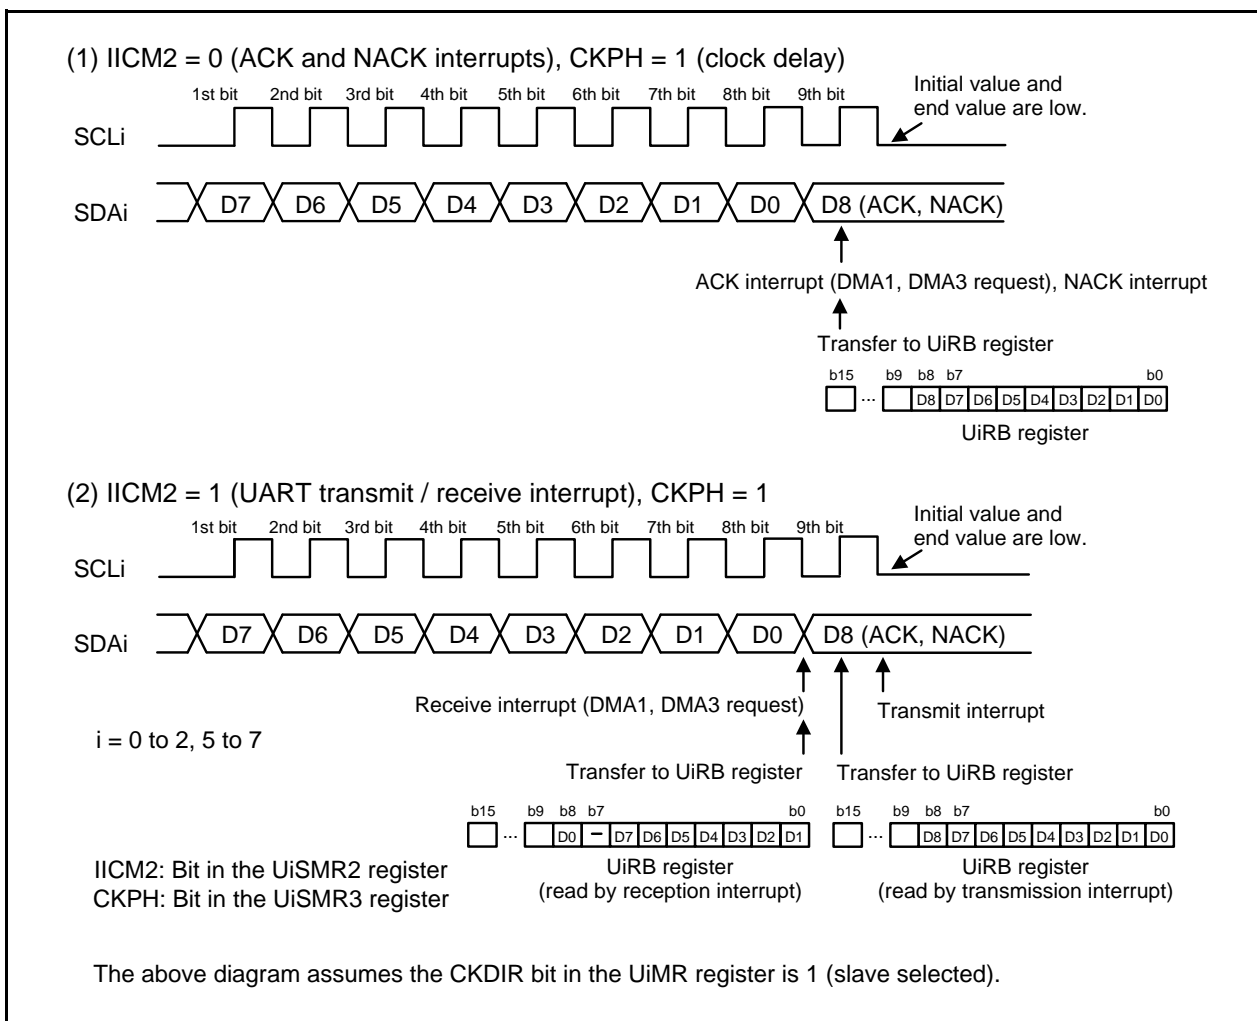

Figure 23.20 Transfer to UiRB Register and Interrupt Timing
In I2C mode, functions and timings vary depending on the IICM2 bit setting in the UiSMR2 register. Figure 23.20 shows Transfer to UiRB Register and Interrupt Timing. See Figure 23.20 for the timing of transferring data to the UiRB register, the bit position of the data stored in the UiRB register, types of interrupts, interrupt requests, and DMA request generation timing.
- See Figure 23.20 "Transfer to UiRB Register and Interrupt Timing".
Data transmission/reception in I2C mode uses the transmit/receive clock as shown in Figure 23.20 "Transfer to UiRB Register and Interrupt Timing". The clock speed increase makes it difficult to secure the required time for ACK generation and data transmit procedure. The I2C mode supports a function of wait-state insertion to secure this required time and a function of clock synchronization with a wait-state inserted by other devices.
Read the received data from the UiRB register. When the clock delay function is used, data transfer to the UiRB register occurs twice and each UiRB register value is different. Refer to Figure 23.20 “Transfer to UiRB Register and Interrupt Timing” for details.